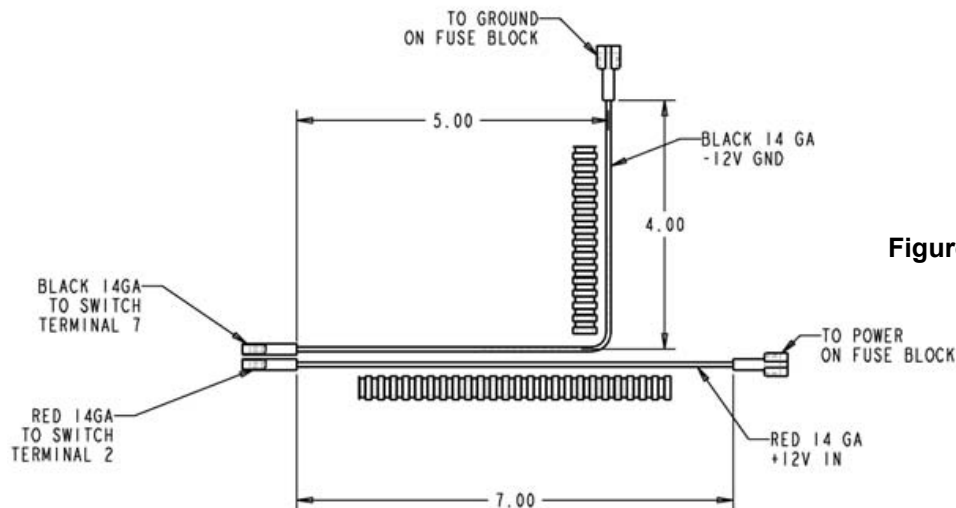

Figure 1
6. Connect opposite end of short red wire to rocker switch (Item 23) terminal 2. (Figure 1 & 3)
8. Connect the opposite end of wire to terminal 7 on the rocker switch (Item 23). (Figure 1 & 3)